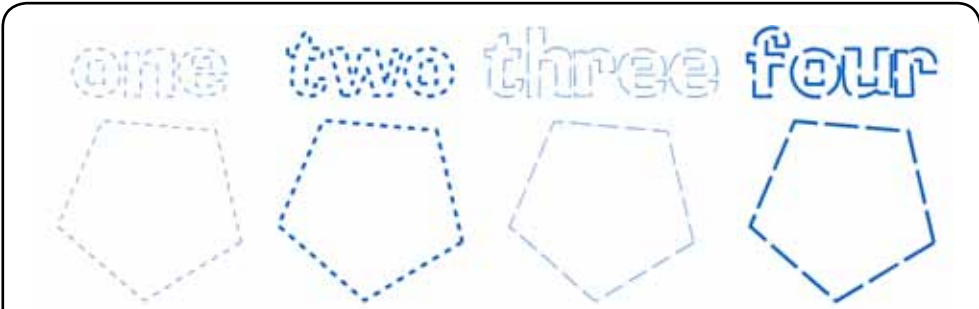

Fig. 4 - Both dash and gap length can be applied as part of a line style.
- ❑ **Dotted Line for Strokes** - Create dashed (and dotted) lines that have a specific dash length and space between dashes (Fig. 4).